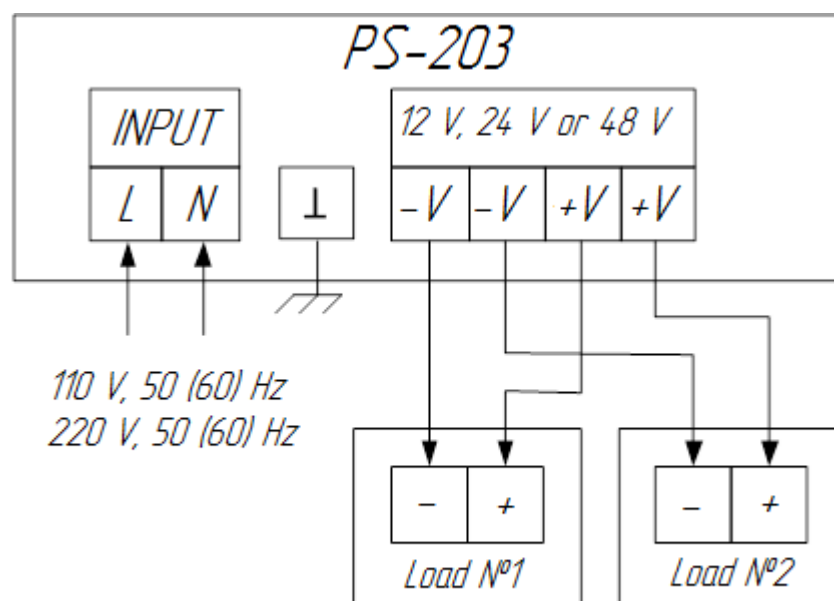

Figure 2 – Connection diagram of the Product
1.3.2 To connect input power supply, use terminals “L” and “N”, loads – “-V” and “+V”, see Figure 2.